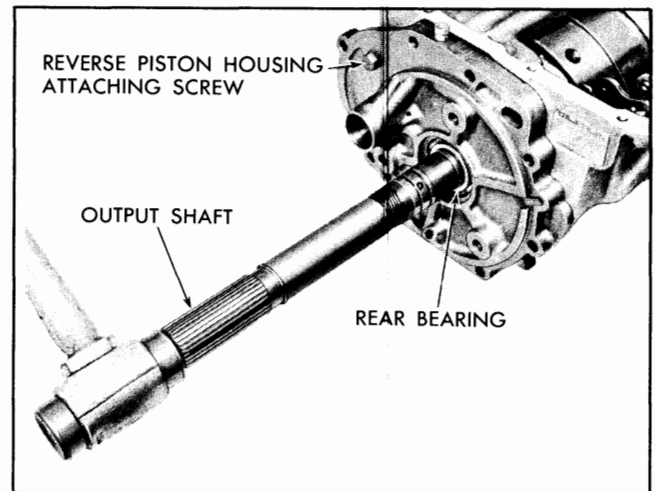

Fig. 7D-60 Freeing Output Shaft
7. Remove rear bearing snap ring from output shaft (Fig. 7D-58).